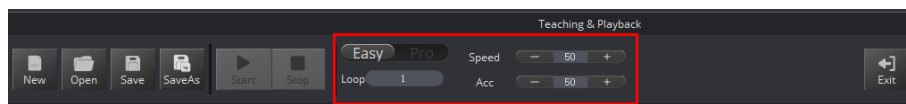

Figure 5.13 Set Easy/Pro, Loop, Speed and Acceleration (Acc)
- In both **Easy** and **Pro** modes, you can switch between **Easy** and **Pro** modes, set loop, speed percentage, and acceleration percentage, as shown in Figure 5.13.